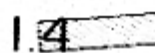

Fig. 70
3. The Needle should protrude into the fl.4 mark. See Fig. 70.